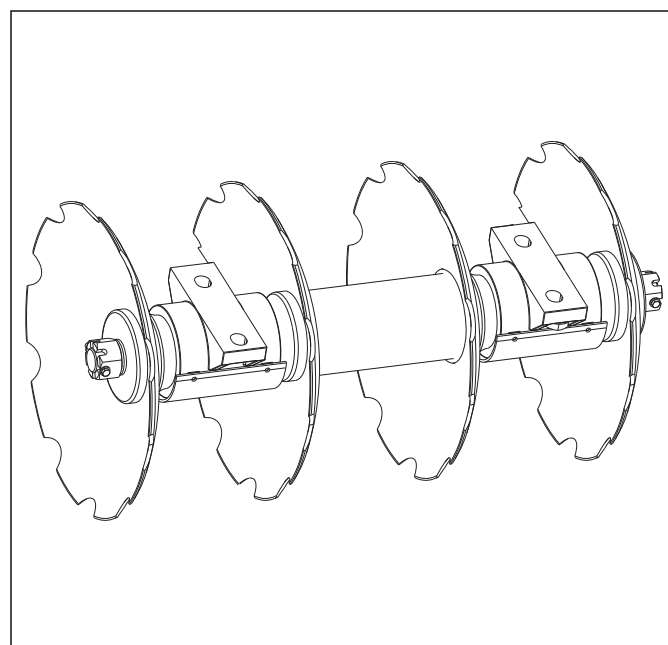

Figure 4-8: Disc Gang Shaft
4. On new machines and after changing disc blades, check and tighten all disc gang shafts after the first 8, 30 & 120 hours of service See Figure 4-8